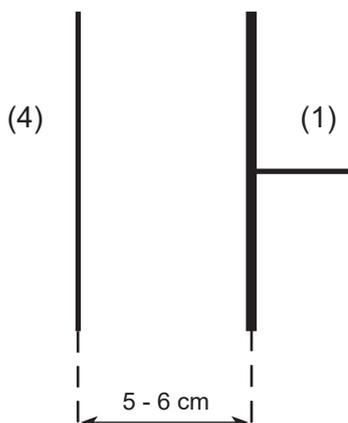
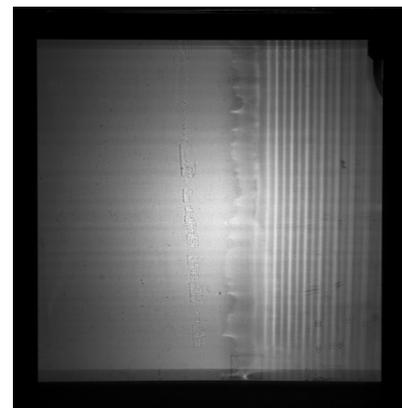

Fig. 26
Fig. 27
Add water in the tank (about 1 cm), mount on the vibrator the dipper for parallel waves (1) and adjust the frequency to a value around 40 Hz. Stop the image and measure the wavelength  $\lambda$ . At this point, put the long barrier parallel to the vibrator, at a distance of 5-6 cm. (Fig. 26). *When you turn off the synchronism between the vibrator and the light source, on the screen you will see that the space between the dipper and the long barrier is seat of stationary waves; waves that do not propagate as is shown in figure 27.* Measure, with a ruler, the distance  $d$  between two light lines, between two antinodes, so you can verify that